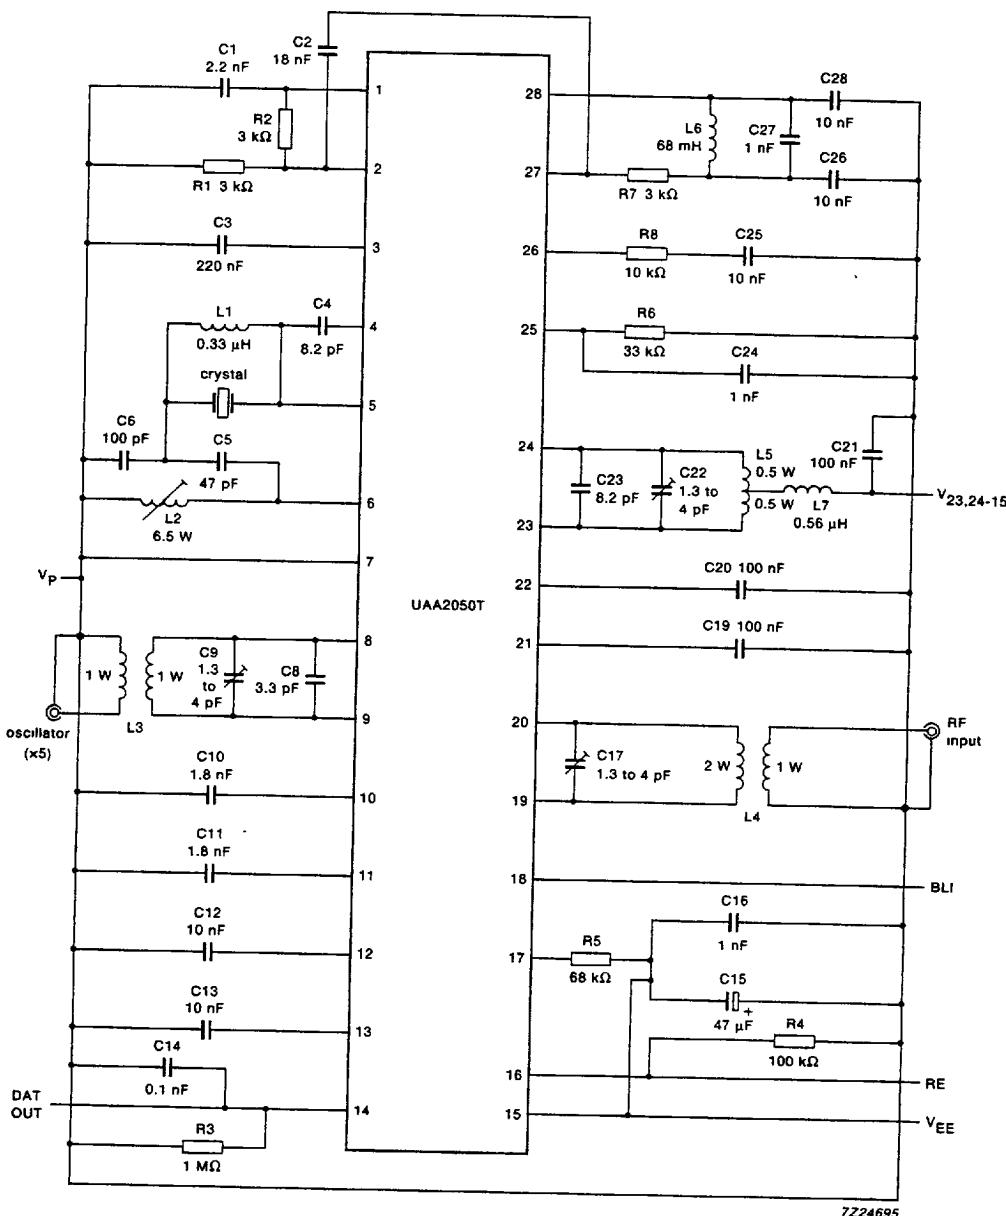

Fig.4 Test circuit (UHF).
For AC test procedures refer to section 'TEST INFORMATION'. $V_P = 2.0 \text{ V}$; $V_{23.24-15} = 1.1 \text{ V}$; all voltages referenced to V_{EE} ; $T_{amb} = -10$ to $+55^\circ\text{C}$; typical values measured at $T_{amb} = 25^\circ\text{C}$; test circuit as Fig.4 and printed-circuit board layout as Fig.7; test signal: $f = 469.200 \text{ MHz}$; deviation = $\pm 4.5 \text{ kHz}$; modulation = 256 Hz rectangular; channel spacing = 25 kHz; unless otherwise specified
1. After performing the DC tests, prepare the device for AC testing (as shown in Fig. 4).
For information concerning the crystal oscillator and inductors, refer to Fig.4.